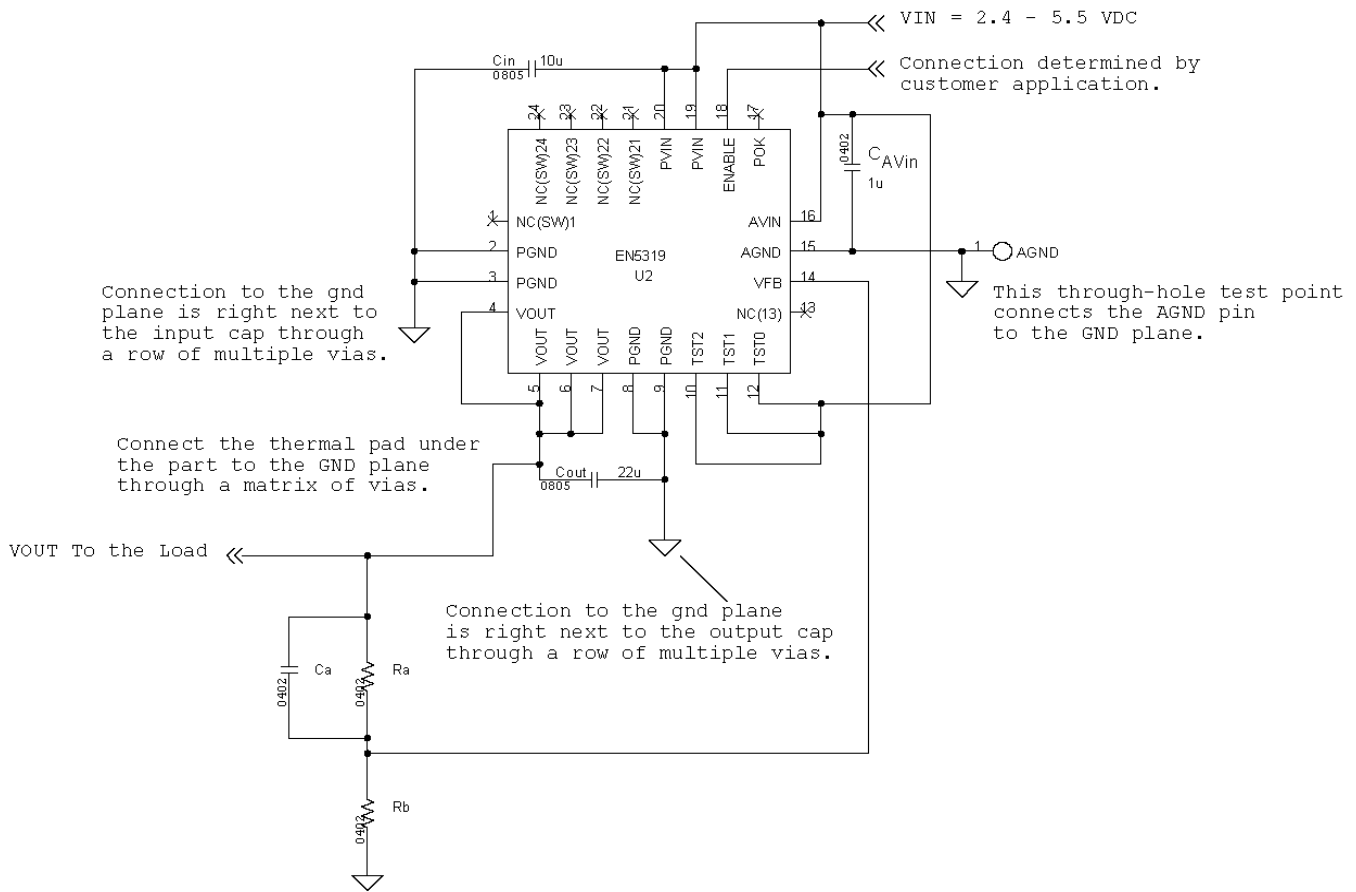

Figure 8. Engineering Schematic with Critical Components
**Recommendation 6:** The layer 1 metal under the device must not be more than shown in Figure 8. See the section regarding exposed metal on bottom of package. As with any switch-mode DC-DC converter, try not to run sensitive signal or control lines underneath the converter package on other layers.